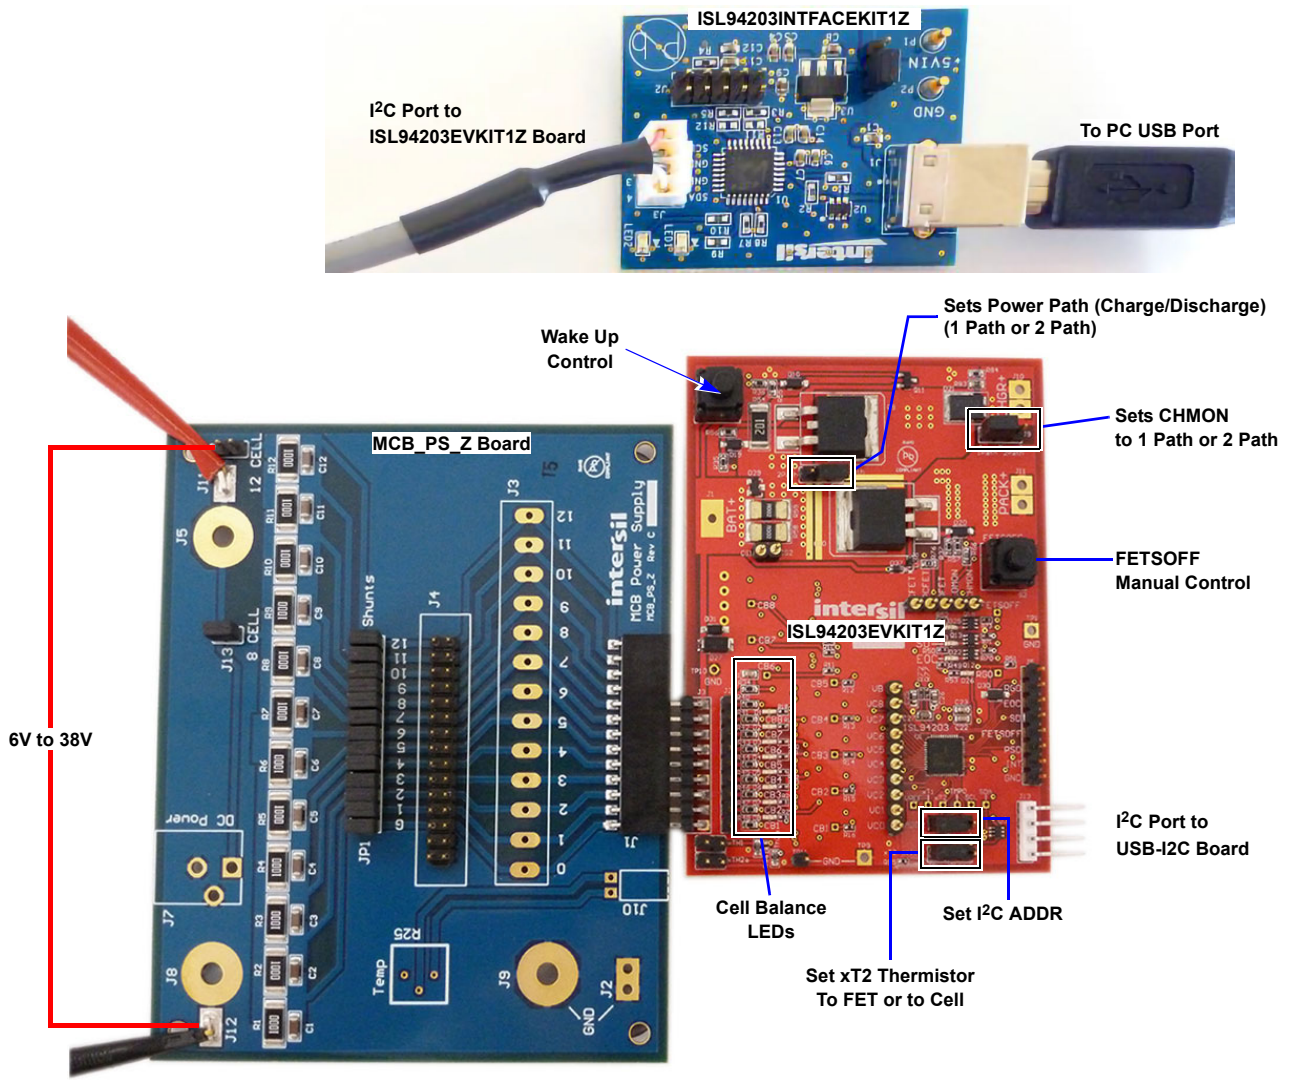

Figure 2. ISL94203EVKIT1Z Board Setup
2. Connect the power supply to the MCB_PS_Z board. The positive terminal is J₅/J₁₁ and the negative terminal is J₈/J₁₂. There should be a jumper on J₁₃ as shown in Figure 2 on page 5.
5. Connect the ISL94203 board directly to the MCB_PS_Z board at connector J₁. Make sure the board is connected on the ground side of J₁ (see Figure 2).